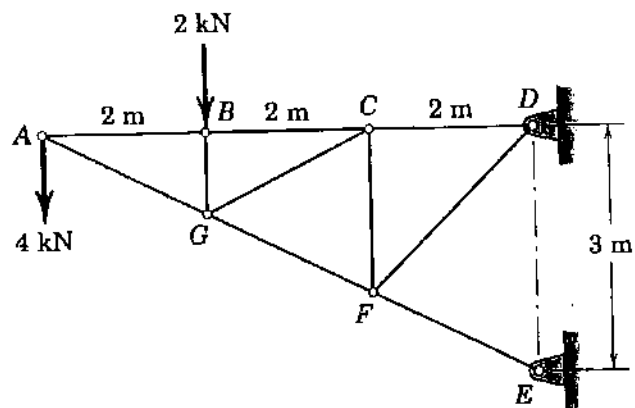

Fig. Q2
2. Calculate the forces in members CG and CF for the truss loaded (Fig. Q2).